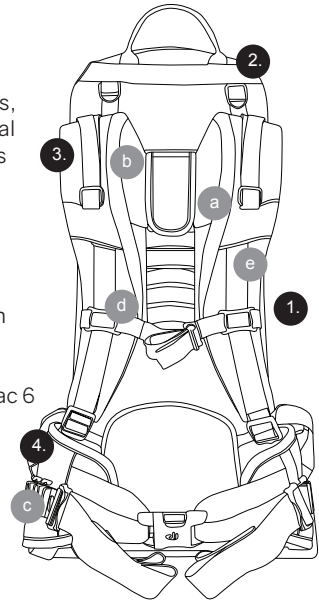

FIG. 2
3. Place the hip belt over your hip and connect the buckle. Your hip bones should be centered between the top and bottom of the belt. Pull the straps forward to tighten the hip belt. **(Fig. 2)**